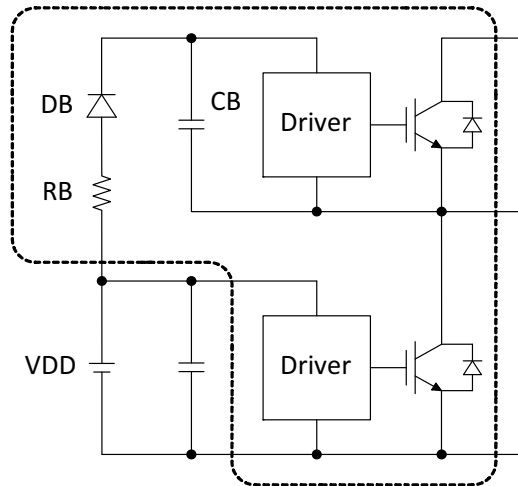

Figure 18. Bootstrap Circuit
VB(U) VB(V) VB(W)	The VB(x) pins are internally connected to the positive supply of the high-side drivers. The supply needs to be floating and electrically isolated. The boot-strap circuit shown in Figure 18 forms this power supply individually for every phase. Due to integrated boot FET only an external boot capacitor (CB) is required. CB is charged when the following conditions are met. Motor terminal voltage is low level for low side IGBT or low side diode conducting. The capacitor is discharged while the high-side driver is activated. Thus CB needs to be selected taking the maximum on time of the high-side and the switching frequency into account.